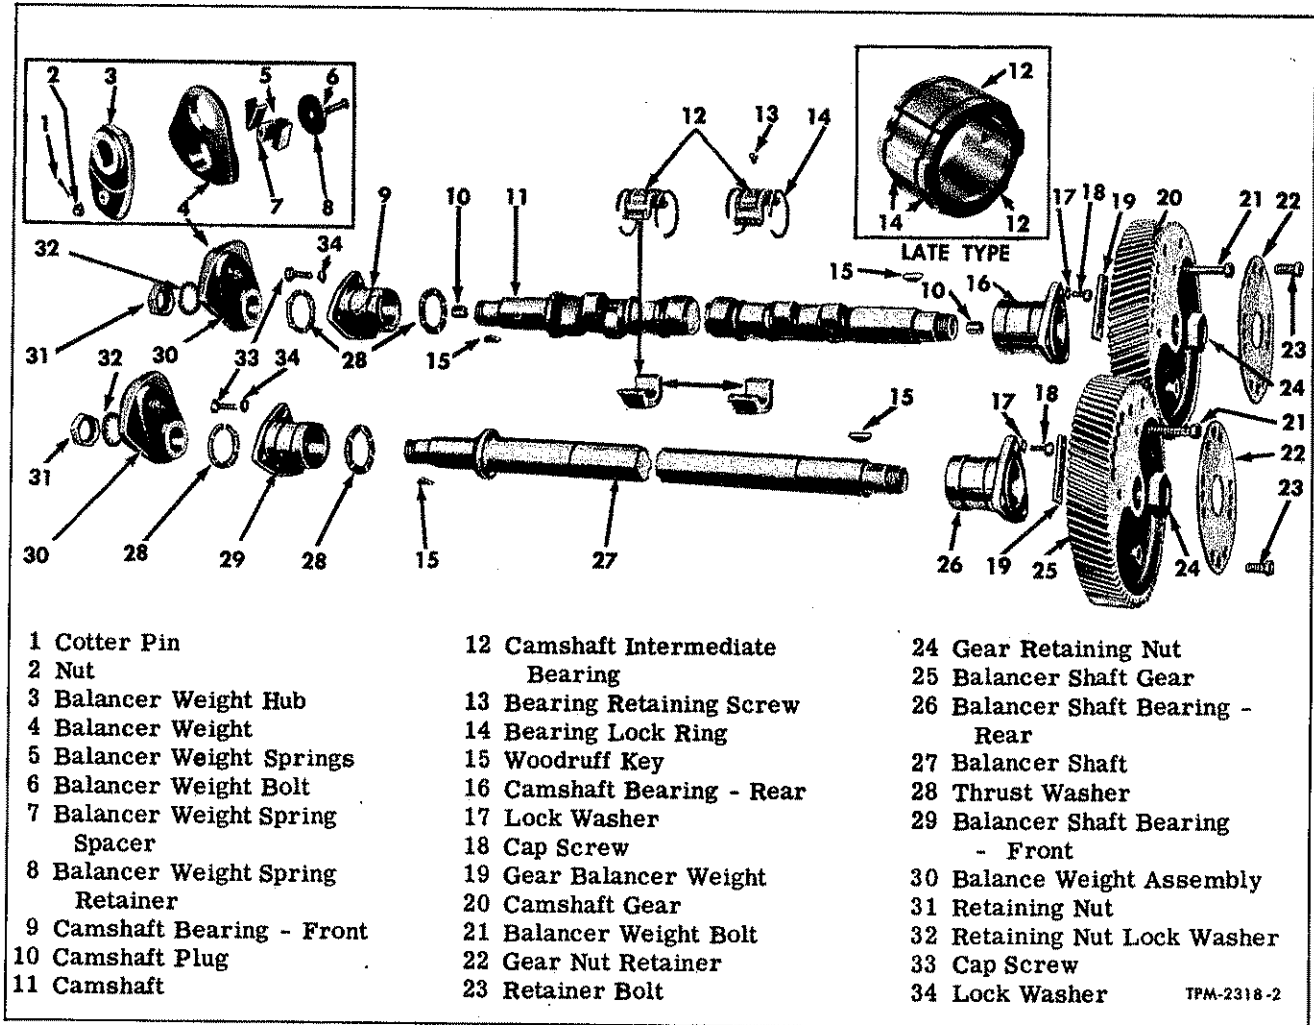

Figure 59—Cam and Balancer Shaft Details
rigid support. Loose steel-backed bronze thrust washers, are used at the thrust end of the shafts. Details of camshaft and balance shaft are shown in figure 59.
Balancer shaft, running parallel to camshaft and at same distance from crankshaft, is located on opposite side of cylinder block. Balancer shaft is supported in same manner as camshaft, except no intermediate bearings are used. End bearings, together with loose thrust washers at the thrust end, are identical with those used on camshaft. Details of camshaft and balance shaft are shown in figure 59.
In addition to counterweighted gears at rear end, balance weights are used at front end of both camshaft and balancer shaft, as shown in figure 59. Front end balance weights are different for the four and six cylinder engines in that the weights are heavier for the four cylinder than for the six cylinder.
6. Install intermediate bearings on camshaft, and lock the two halves together with two lock rings on each bearing (fig. 59).